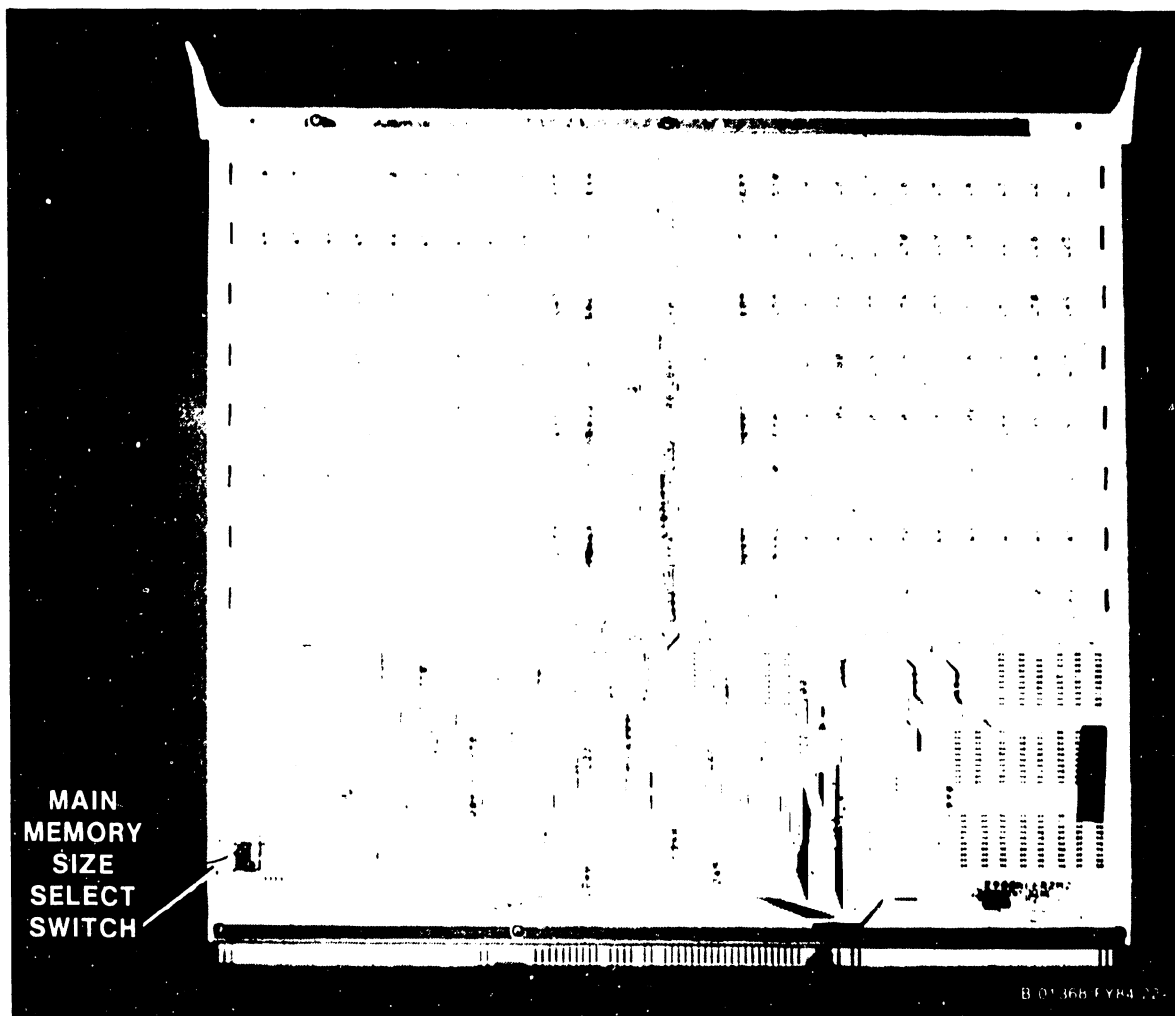

Figure 5-5. 210-7900 Main Memory board
5. Remove the Main Memory board (figure 5-5) from Motherboard slot #1 by lifting the snaplocks to free the board from the Motherboard connectors. Once the board is free of the connectors, ease it straight up in the board guides and out of the board cage.